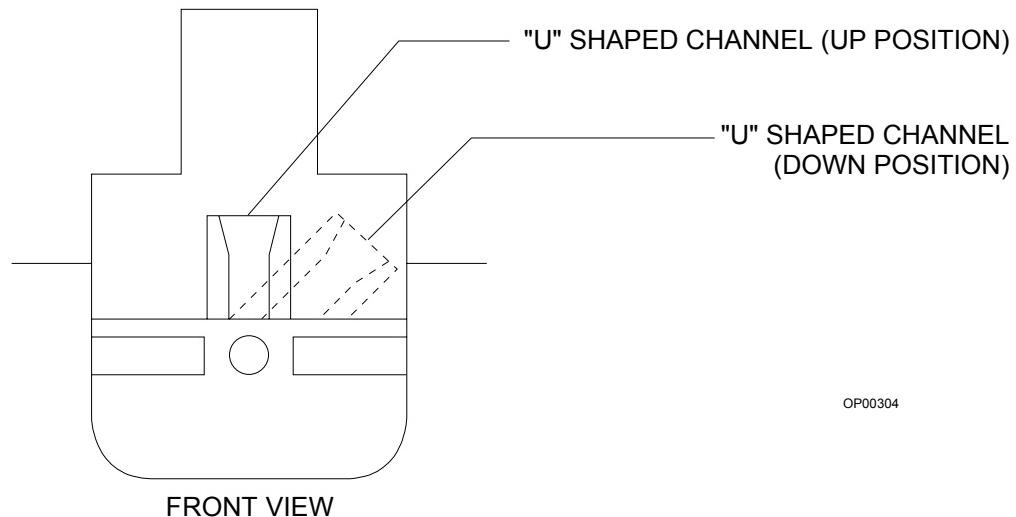

Figure 10-11. Piston Coupling Assembly - "U" Shaped Channel
Note: For correct operation, the "U" shaped channel on the piston coupling assembly should be in the up position when the piston assembly is removed from the ventilator chassis, and should be in the down position when the piston assembly is properly installed in the ventilator chassis. See Figure 10-11.
3. Look through the window in the metal plate behind the piston-cylinder unit and observe the "U" shaped channel. Refer to Figure 10-11. Using the red "T" handled Divan tool or a screwdriver, move the "U" shaped channel back approx. $\frac{1}{2}$ in., and then push it to the right until it snaps out of view to its down position.